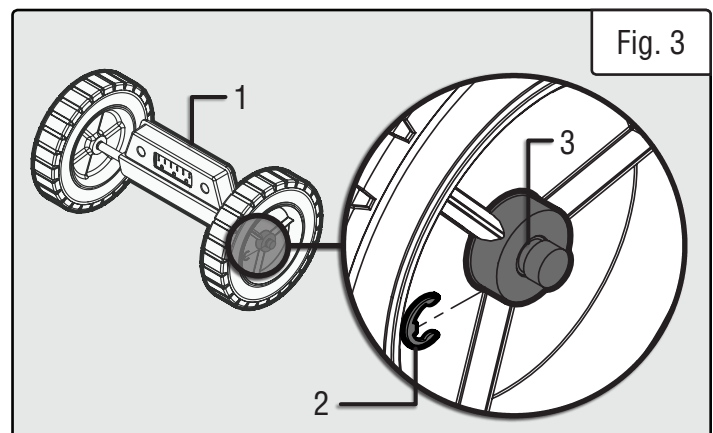

Fig. 3
3. Slide wheels onto the wheel axle assembly (Fig. 3 - 1). Secure each wheel with a retaining ring (Fig. 3 - 2) that goes in the groove around the wheel axle (Fig. 3 - 3). You may need to use a rubber mallet to tap ring into place.